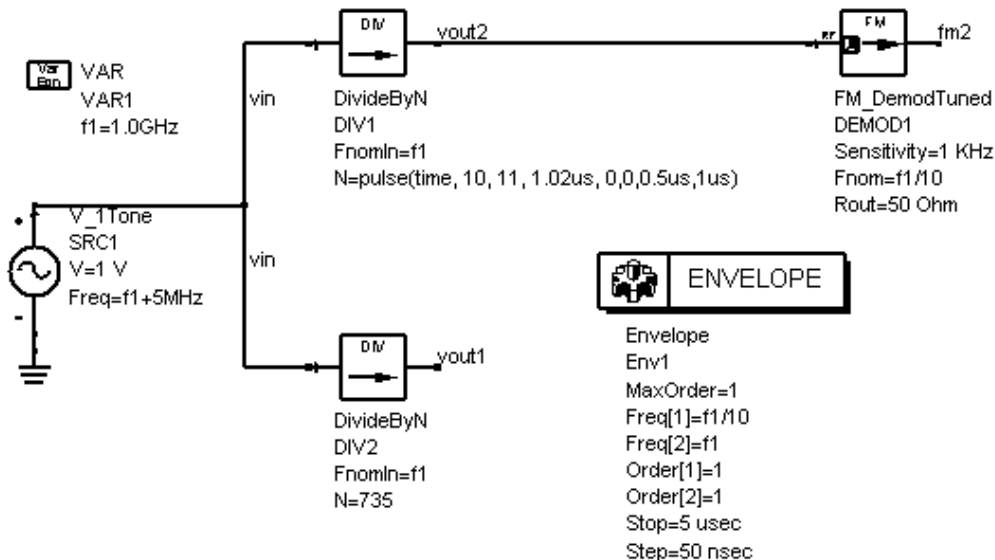

Figure 5-1. Divider with an RF Carrier Input
4. **Figure 5-1** show examples of the divider operating with an RF carrier input: one divider outputs a baseband output; one divider outputs the divided frequency at the other carrier frequency. Note that N can be time varying in order to simulate the effect of a fractional-N divider. **Figure 5-2** shows the simulation results.